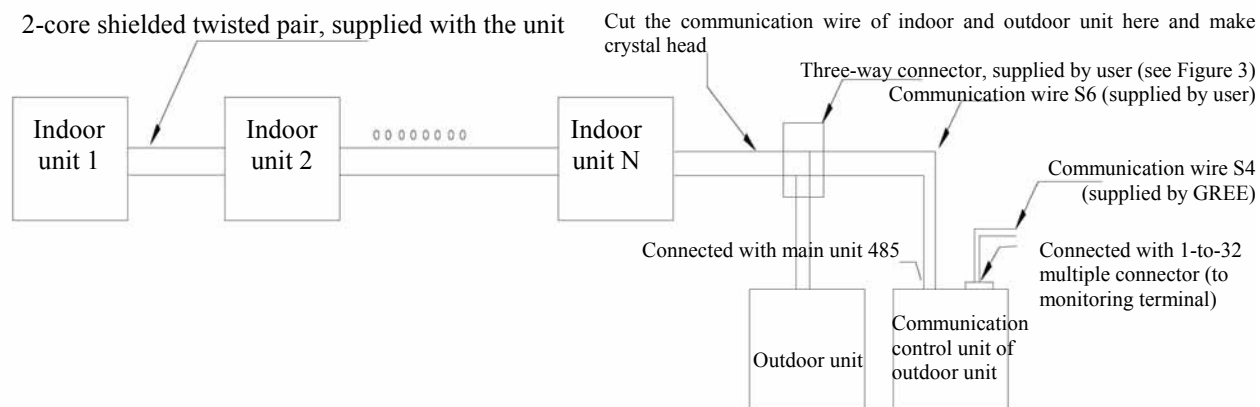

Figure 4: Connection diagram between indoor unit and communication control unit
11. Figure 4 is the connection diagram between indoor unit and communication control unit. Please note that the definitions of signal wire 485A and 485B of air conditioner indoor and outdoor units of different models might be different, so one-to-one relation must be ensured during connection, i.e. A to A, B to B and inverse connection is not allowed